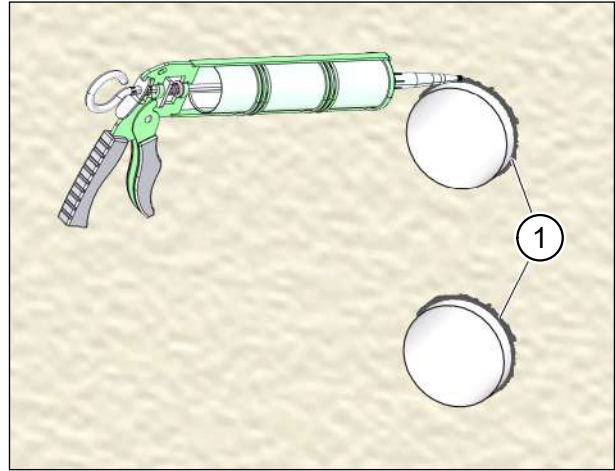

Fig. 29: Sealing ventilation pipes on the external wall
- ▶ Chamfer both pipe breakthrough edges (item 1 in Fig. 29) to roughly  $5 \times 45^\circ$  to create enough space for the sealing joints with permanently elastic sealant.